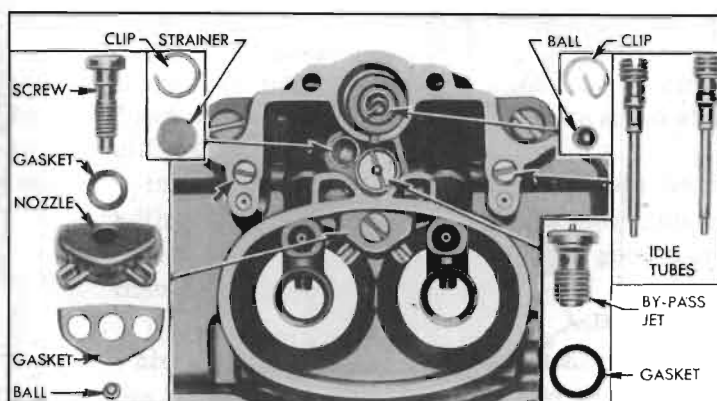
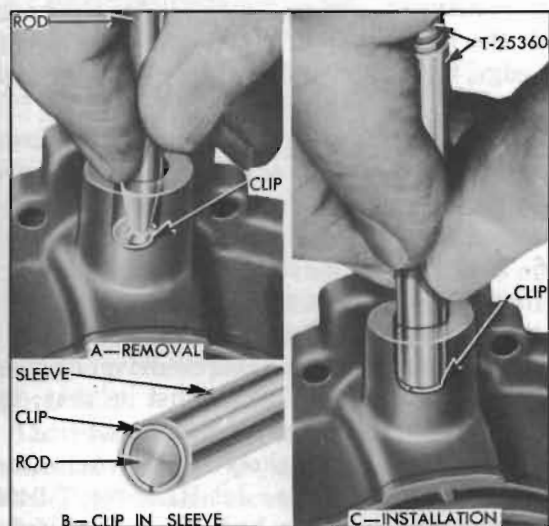

Figure 3-71—Parts in Main Body
Figure 3-75—Removing and Installing Retainer Clip
9. Remove power by-pass jet and gasket, and both idle tubes from main body. See figure 3-71. Handle idle tubes carefully to avoid damaging small end which contains metering orifice.
10. Remove pump discharge nozzle screw, nozzle and gaskets. Place hand on top of main body and invert body to catch the check valve ball located in discharge channel. See figure 3-71.
clip, using long nosed pliers, then remove check valve ball. See figure 3-71.
Replace inlet strainer if it is damaged or clogged so that it cannot be thoroughly cleaned, using Retainer Clip Replacer T-25360. Use small end of rod of tool to remove retainer clip. To install clip, place it in tapered end of tool sleeve then use rod inside sleeve to push clip into place. See figure 3-75.
Replace pump strainer if it is damaged or clogged so that it cannot be thoroughly cleaned. Use Retainer Clip Replacer T-25360 as previously explained but use shouldered end of sleeve for installing retainer clip. See figure 3-75.
10. Place check valve ball in bottom of pump cylinder and install retainer clip, using Replacer T-25360 (fig. 3-75) or long nosed pliers. Inner end of clip must point down towards ball. See figure 3-71.
11. Install pump discharge channel check ball, then install *new* nozzle gasket, discharge nozzle, and nozzle screw with *new* gasket. See figure 3-71.